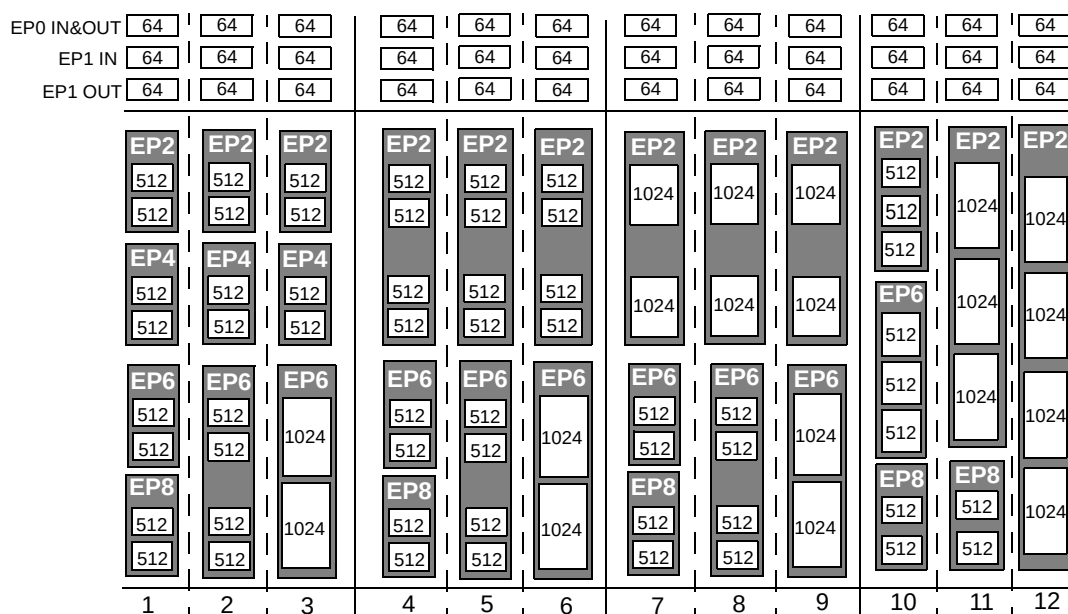

Figure 3-5. Endpoint Configuration
- EP2,4,6,8 Eight 512-byte buffers, bulk, interrupt, or isochronous. EP4 and EP8 can be double buffered, while EP2 and 6 can be either double, triple, or quad buffered. For high-speed endpoint configuration options, see Figure 3-5.